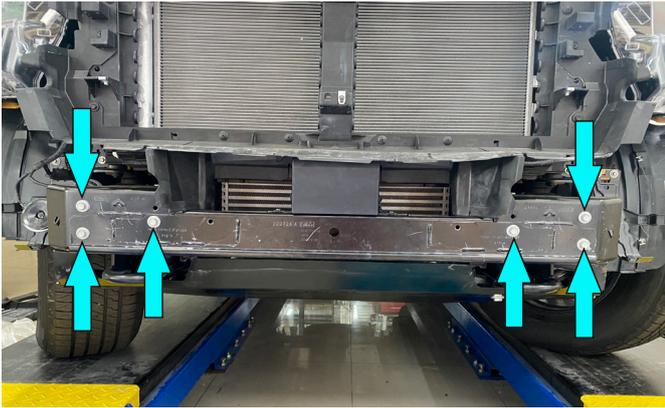

Fig.13
13. Unscrew OE bolts and remove OE beam (fig. 13).